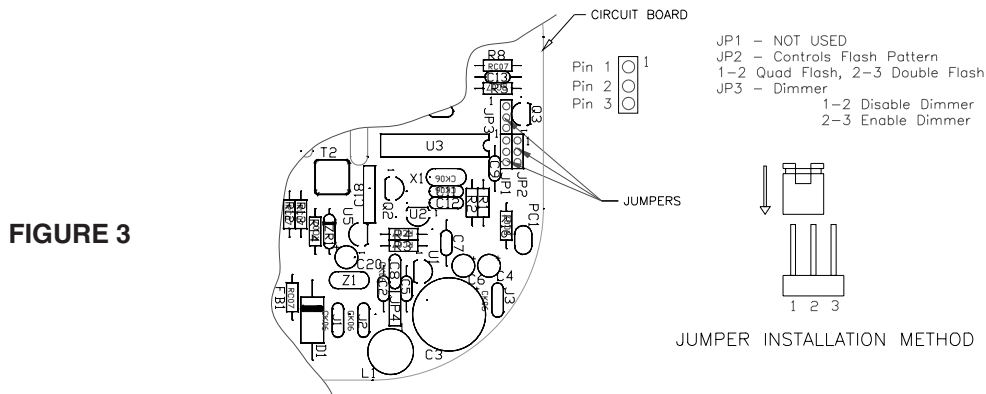

FIGURE 3
2. Remove lens and select the appropriate flash configuration. Use Figure 3 as a guide